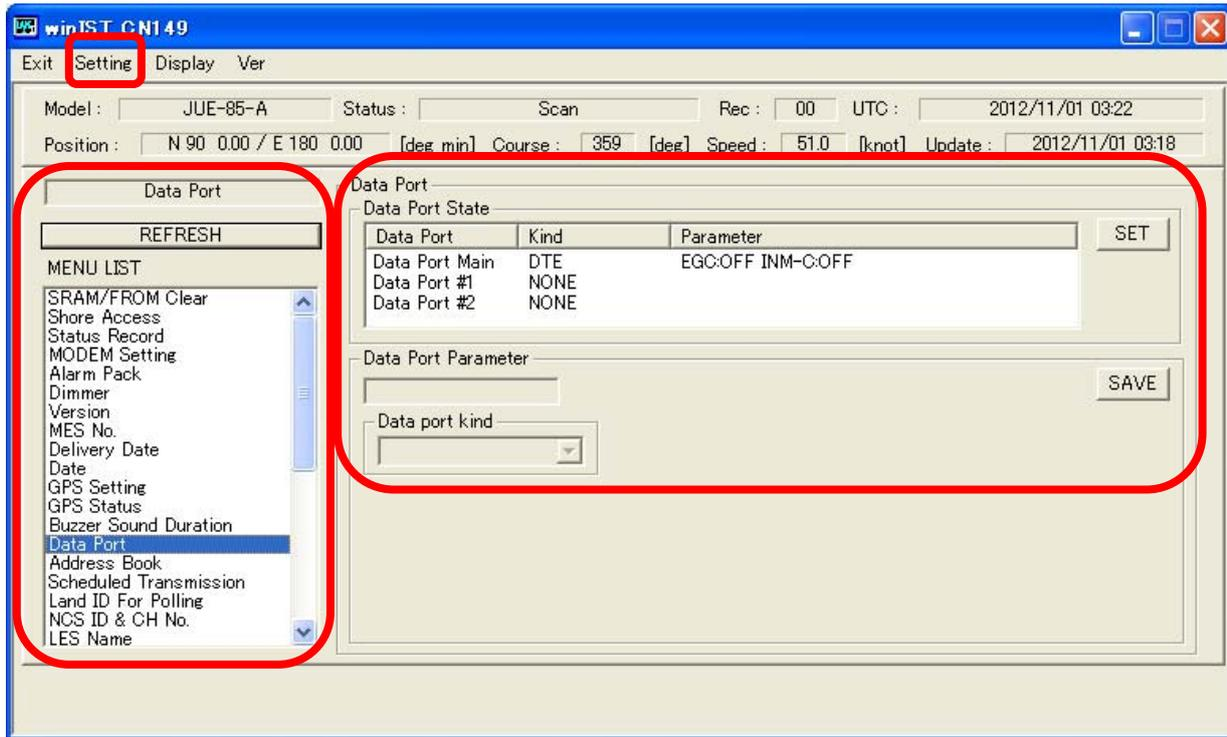

Fig. 4-15-1a [Data Port] screen
2. Operation except [Exit], [Display], and/or [Ver] is not possible while winIST is communicating with INMARSAT terminal(the function in the frame of **Fig. 4-15-1a [Data Port] screen** cannot be operated).
6. Operation except [Exit], [Display], and/or [Ver] is not possible while winIST is communicating with INMARSAT terminal(the function in the frame of **Fig. 4-15-1a [Data Port] screen** cannot be operated.)